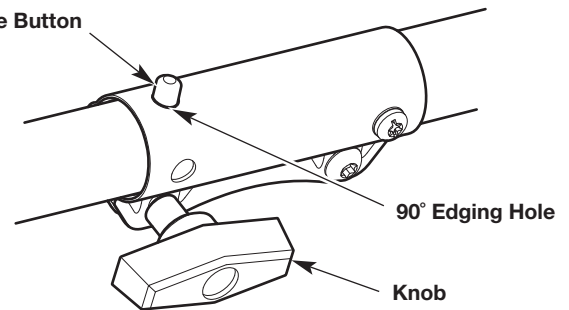

Fig. 18
1. Turn the knob counterclockwise to loosen the coupler (Fig. 18).
2. Press and hold the release button (Fig. 18).
3. Rotate the attachment until the release button snaps firmly into the 90° edging hole (Fig. 18).
4. Turn the knob clockwise to tighten the coupler (Fig. 18).